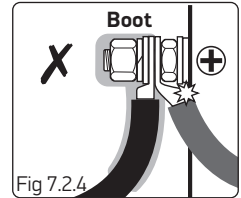

Fig 7.2.4
- ▶ Crimp inverted and is touching motor! (Fig 7.2.4).